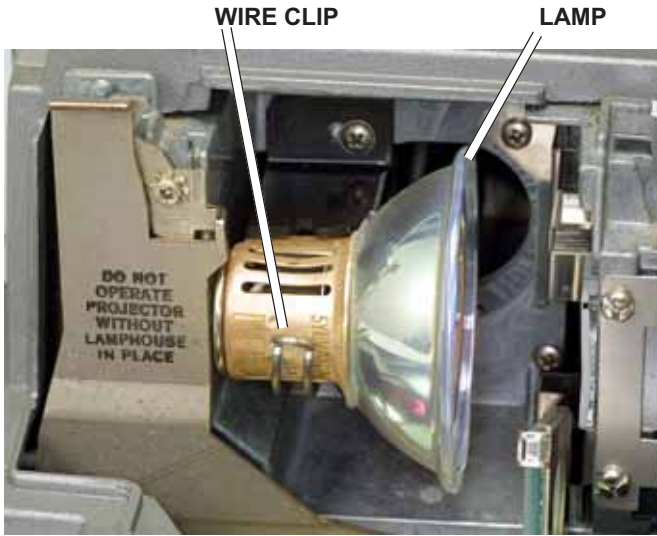

FIG. D11 Front view with front cover removed.
4. Still at the front of the projector, remove the lamp, Fig. D11—just push down the wire clip and unplug the lamp.